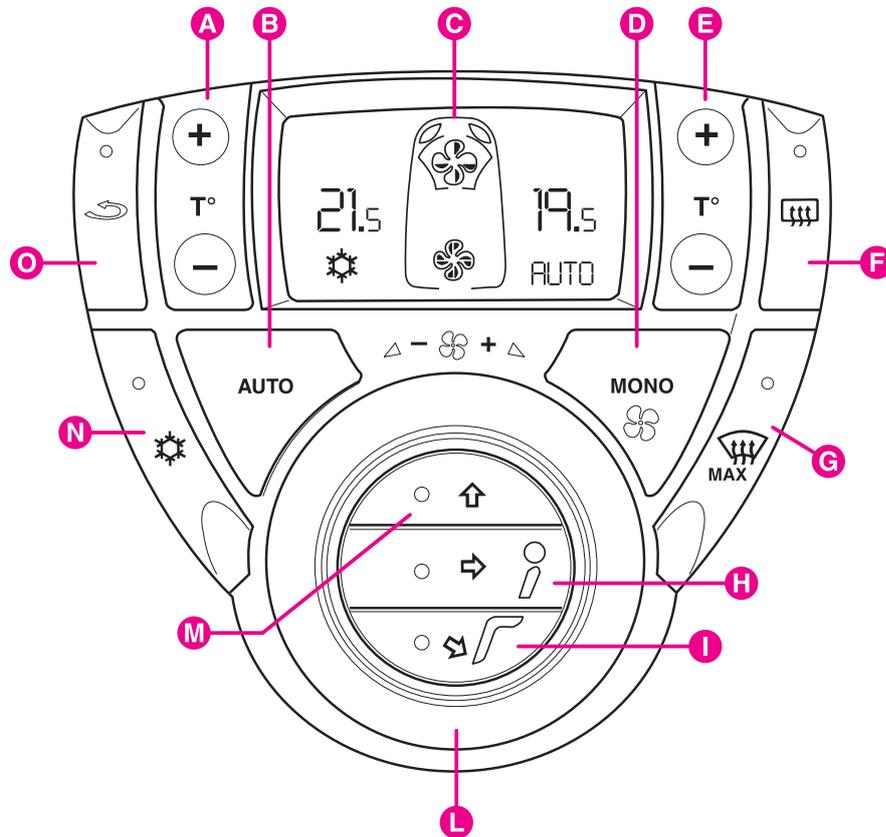

fig. 88
Legend fig. 88
- **driver's and passenger's side temperature alignment (MONO) fig. 88 (for versions without additional fans):** this is possible by pressing button **D**, so a single temperature is reached inside the passenger compartment.